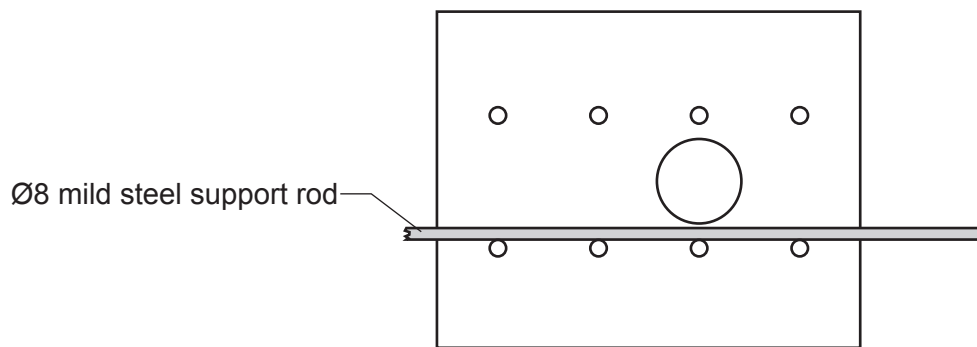

Fig. 12.4
- (i) Show the positions of the support rod and **three** Ø10 mild steel pins on Fig. 12.4, to produce bend **A**.